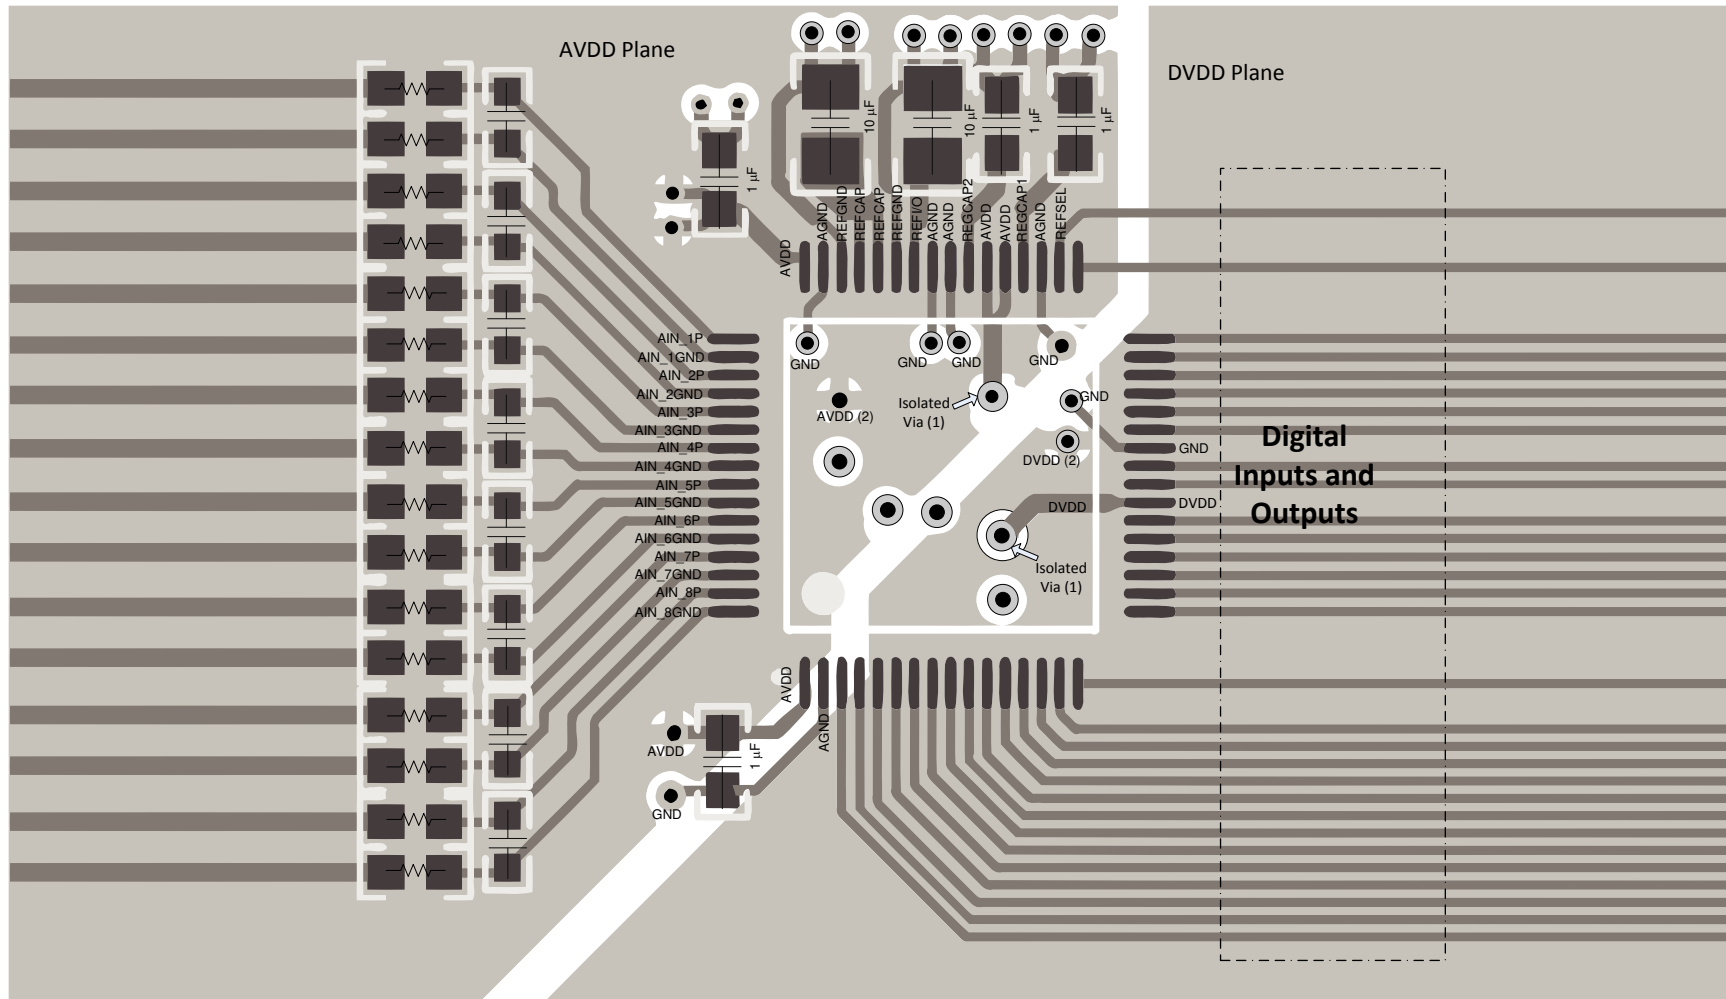
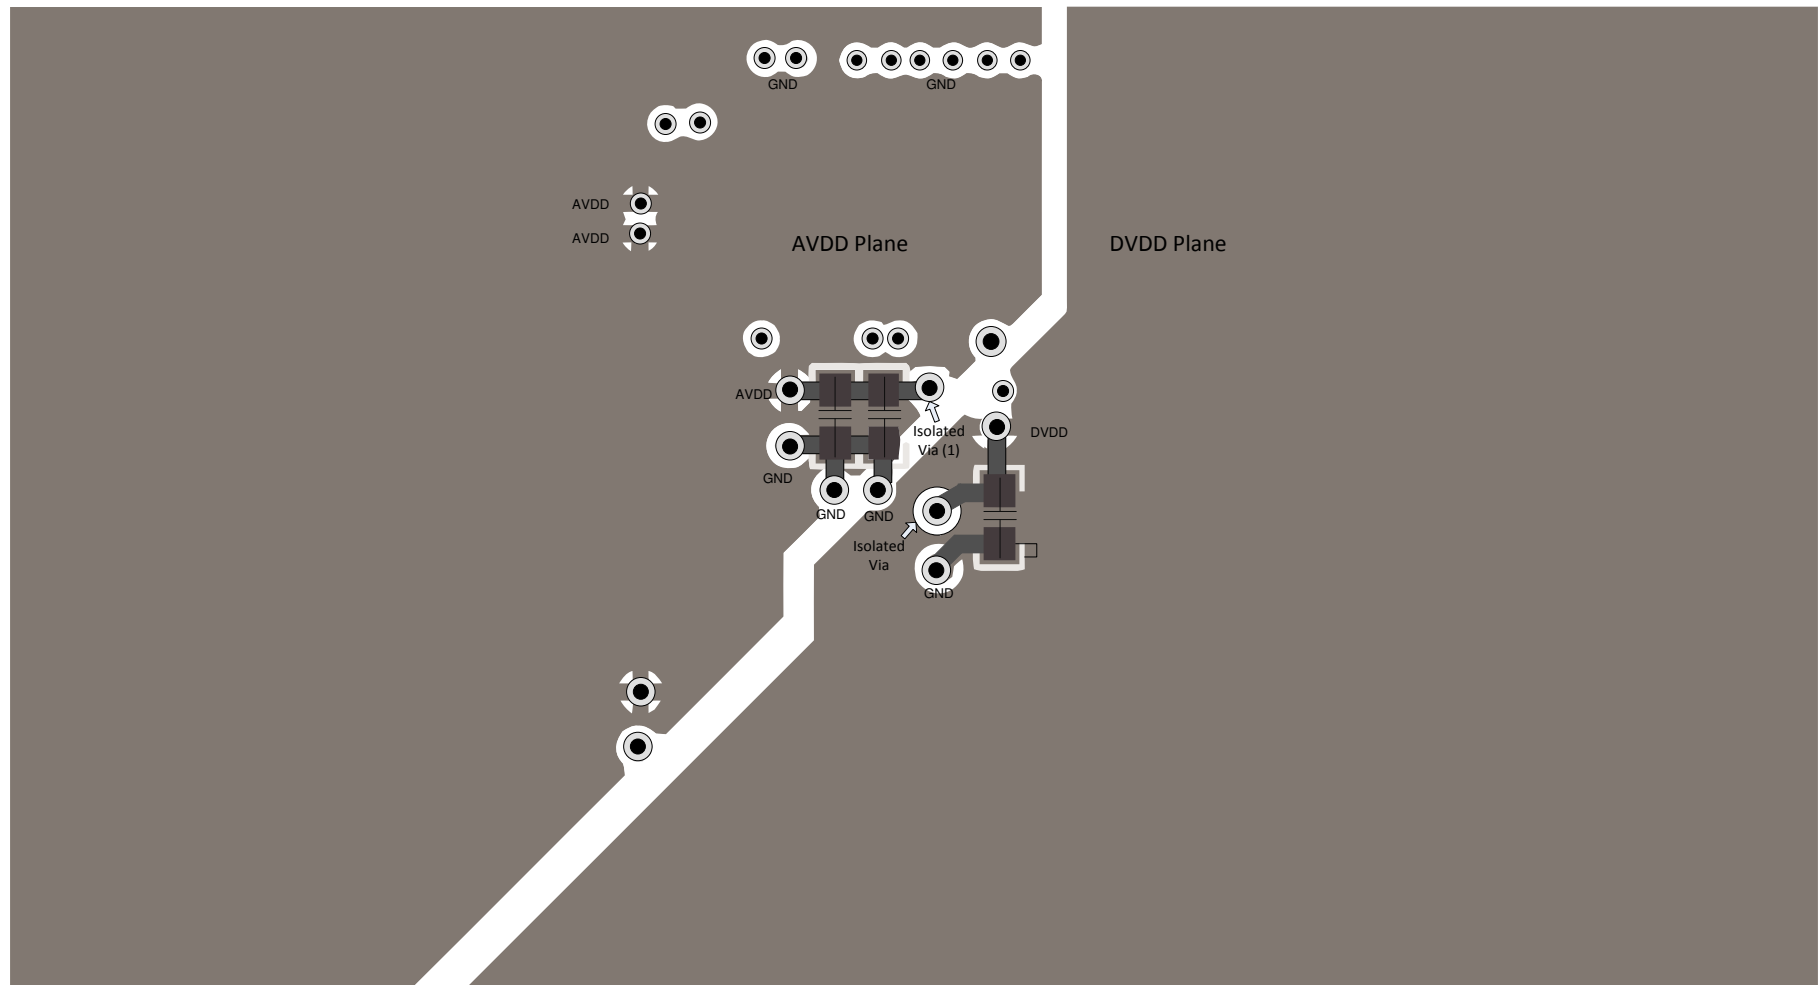

Figure 8-6. Top Layer Layout
Figure 8-7. Bottom Layer Layout
Figure 8-6 and Figure 8-7 illustrate a PCB layout example for the ADS8588H.
- Power sources to the ADS8588H must be clean and well-bypassed. As a result of dynamic currents during conversion, each AVDD must have a decoupling capacitor to keep the supply voltage stable. Use wide traces or a dedicated analog supply plane to minimize trace inductance and reduce glitches. Using a 1- $\mu$ F, X7R-grade, 0603-size ceramic capacitor is recommended in close proximity to each analog (AVDD) supply pins. Bypass capacitors for AVDD pins 1 and 48 are located on the top layer; see Figure 8-6. AVDD supply pins 37 and 38 are connected to bypass capacitors in the bottom layer using an isolated via (1); see Figure 8-7. A separate via (2) is used to connect the bypass capacitor to the AVDD plane.
- For decoupling the digital (DVDD) supply pin, a 1- $\mu$ F, X7R-grade, 0603-size ceramic capacitor is recommended. The DVDD bypass capacitor is located in the bottom layer; see Figure 8-7.
Figure 8-6 and Figure 8-7 illustrate a recommended layout for the ADS8588H along with proper decoupling and reference capacitor placement and connections.